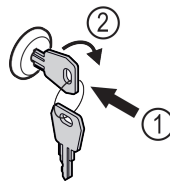

Fig. 127
- ▶ Insert key Fig. 127 (1).
- ▶ Turn key clockwise by 90° Fig. 127 (2).